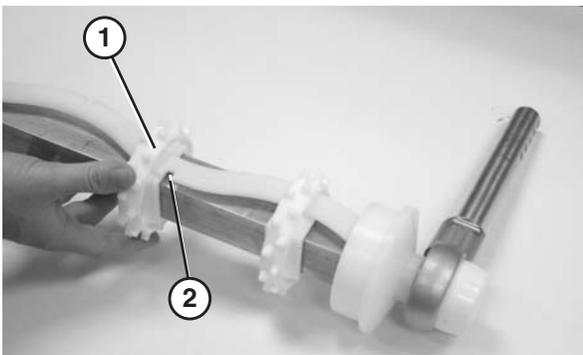

Figure 80
4. Install the remaining sprockets (**Figure 80, item 1**) making sure to position each sprocket with the next available notch (**Figure 80, item 2**) in the sprocket alignment bar.